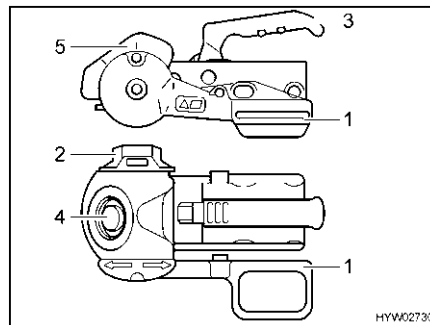

Fig. 2 AKS 1300 stabiliser
- Pull up the stabilising lever (Fig. 2,1) as far as possible.
- Turn the handwheel (Fig. 2,2) in an anticlockwise direction as far as possible in the open position.
- Pull the coupling handle (Fig. 2,3) upwards.
- Conduct a visual inspection: The green cylinder on the safety indicator (Fig. 2,4) must be visible.
- Push the stabilising lever down until the marking on the stabilising lever is aligned with that on the stabilising housing (Fig. 2,5).